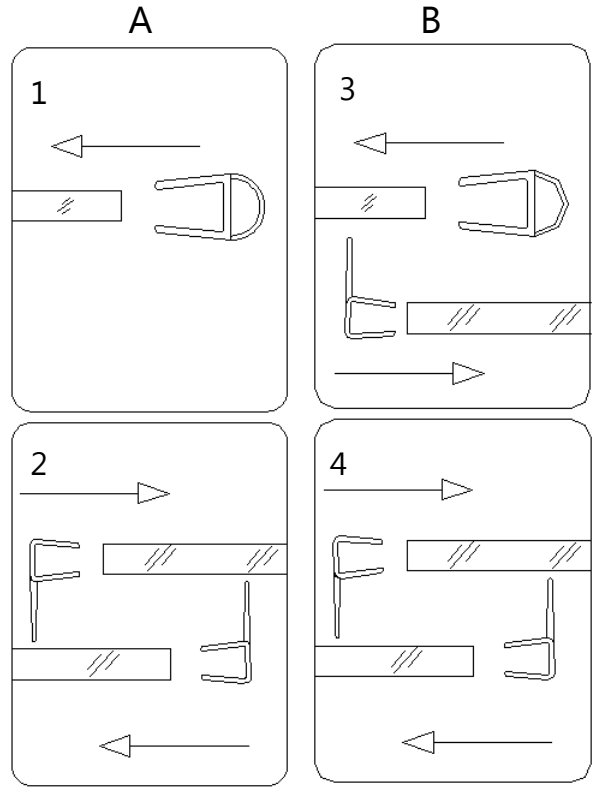

Fig. 18
See Fig. 18 (A) for details.
Press the **Anti-water strip (#25)** onto the vertical edge of the **Small Stationary glass (#24)** (for 72" model) as shown in Fig. 18 (B)